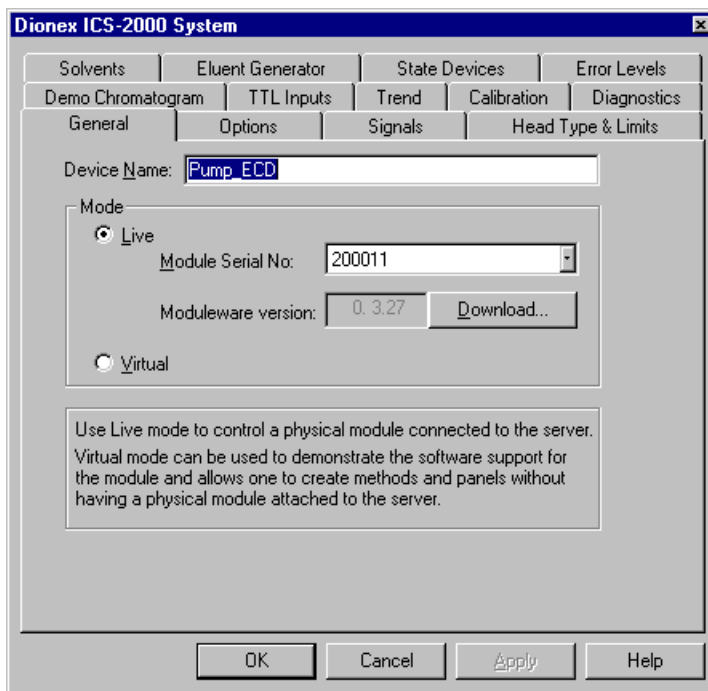

Figure B-16. ICS-2000 System Properties
3. The ICS-2000 System dialog box opens (see Figure B-16). The **General** page shows the Device Name (**Pump\_ECD**), the Mode (**Live**), and the Module Serial No.